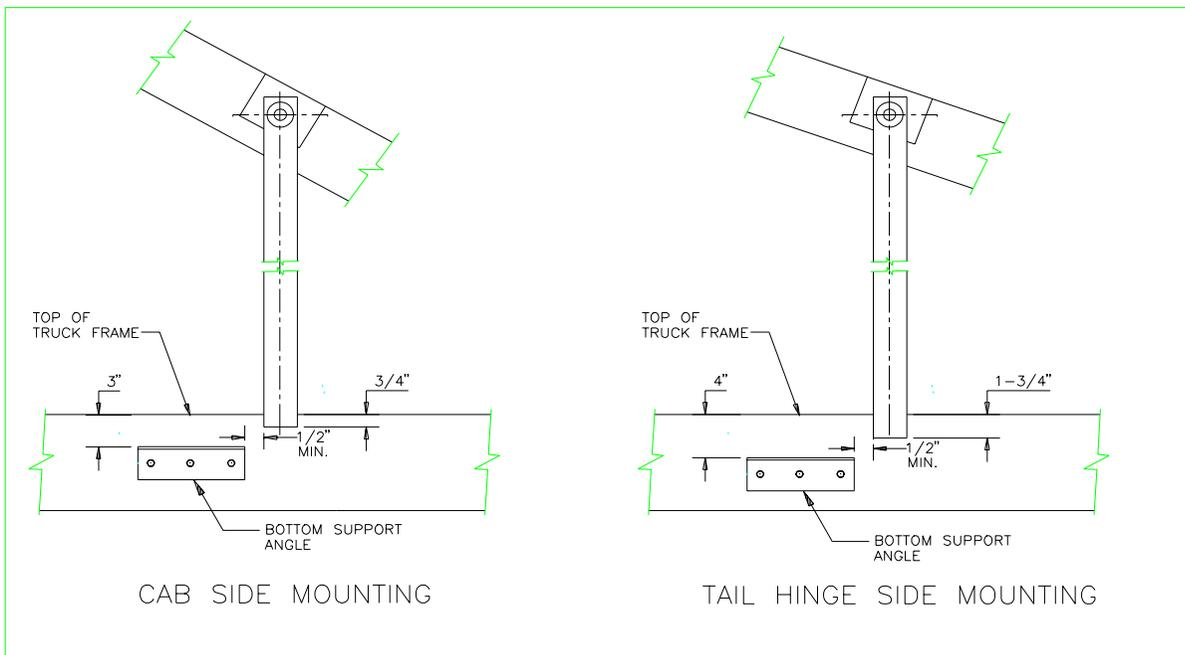

Figure 20: Bottom Support Angle Position
4. Clamp the Bottom Support Angle in position as shown in Figure 20.
7. Drill and bolt the Bottom Support Angle in place. (See Figure 20.)